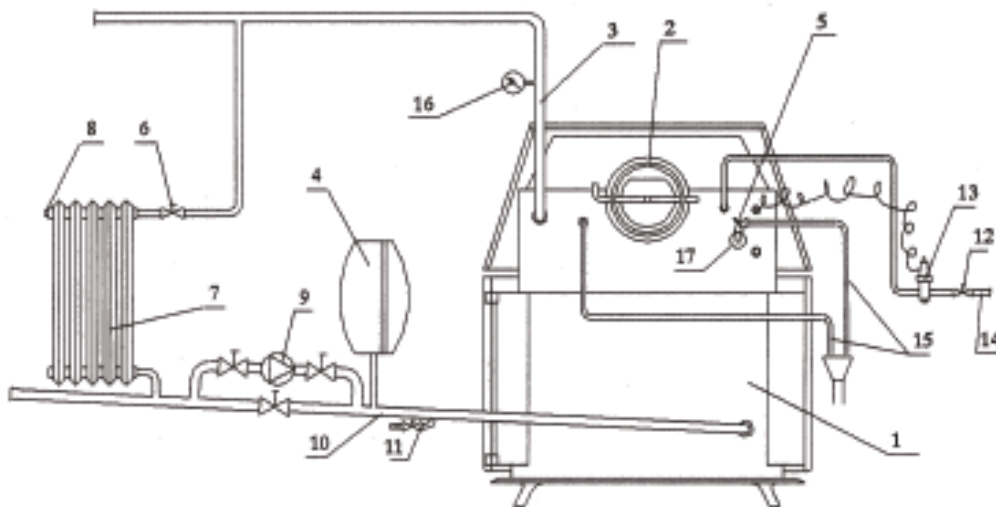

Fig. 7
Special characteristic of these stoves – furnaces is that they have built-in snake hose (copper pipe) which when connected to the thermal valve (fig. 7 and fig. 7a pos. 13) is used as a thermal fuse for eventual overheating of the stove – furnace.